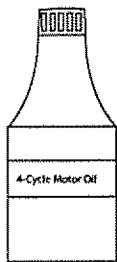

Fig 5
Your unit is supplied with one 1.7 fluid oz. (50 mL) bottle of SAE 10W-30 SF, SG or SH oil (Fig. 5).
1. Unscrew the top of the bottle of oil and remove the seal covering the opening. Replace the top. (Fig. 5).